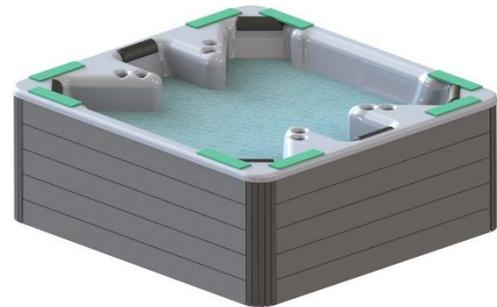

Figure 40
- 1) Attach the foam spacers to the top of the hot tub near each corner using the masking tape provided in the seal pack. There must be at least two foam spacers per side. Do not stack two pieces of foam. (Figure 40)